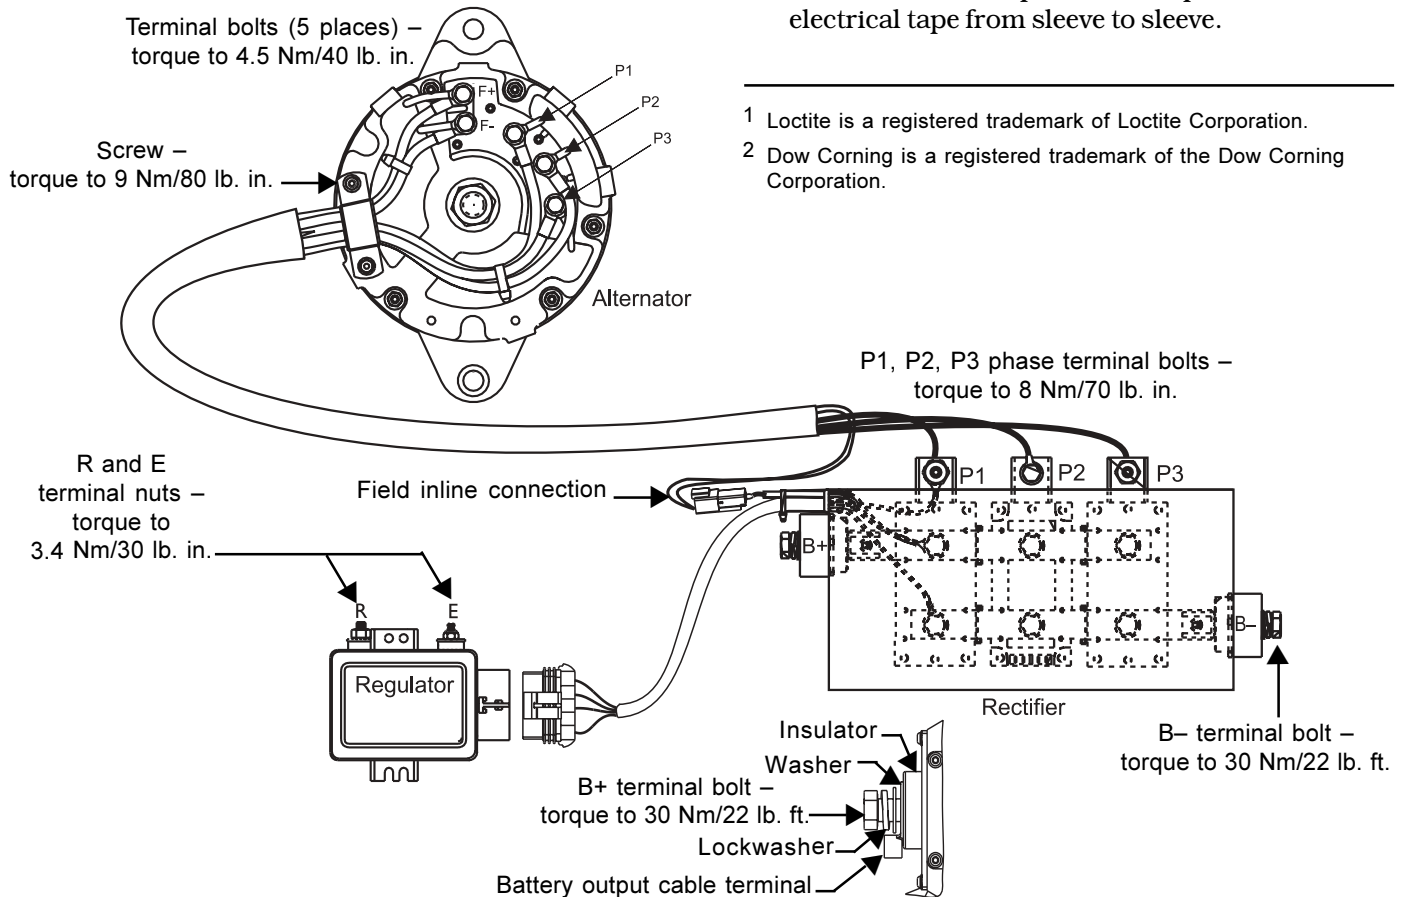

Figure 4 - Electrical Connections
1. Connect harnesses between components as shown in Figure 4. Use torque values shown. When operating with a battery isolator, field positive (F+) must be connected to battery positive (B+).